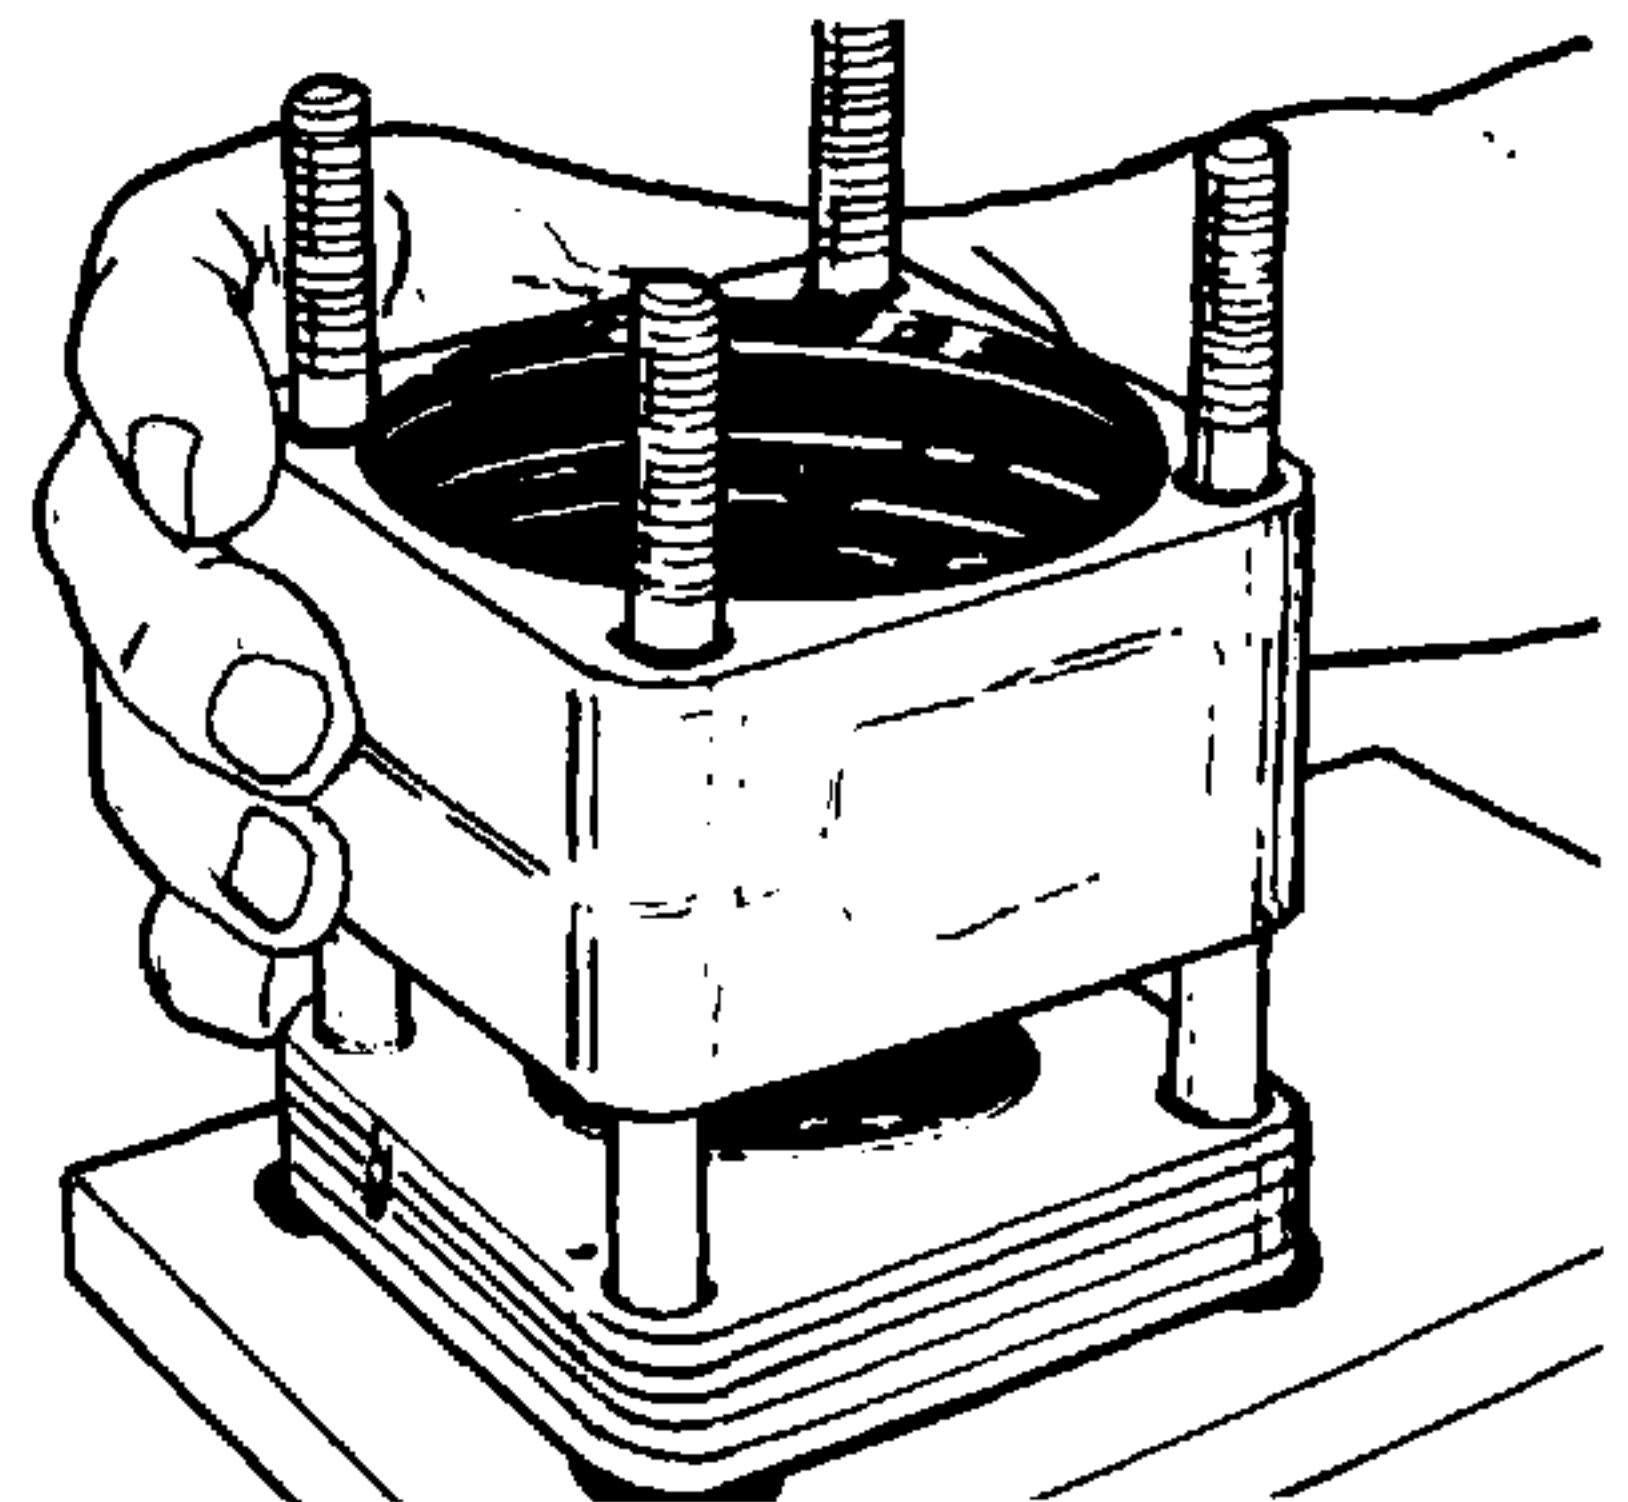

Figure 4-69. Installing Metering Ring.
22. Apply clean grease to the metering ring seal ring (4, Figure 4-1). Position the seal ring in the metering ring seal groove opposite to the end with the needle roller holes. Stack the metering ring (39) into place, over the four bolts (38), with the seal ring toward the upper cover plate (30), and a needle roller hole on the metering ring in line with and on the same side as the alignment groove on the side of the upper cover plate. See Figure 4-69. This is required so that the other components can be aligned correctly.